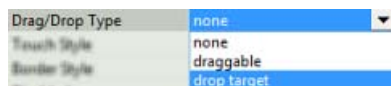

FIG. 216 Drag/Drop Type (General) property
2. In the Properties window (General tab), click on the Drag/Drop Type property to open the drop-down menu (FIG. 216):